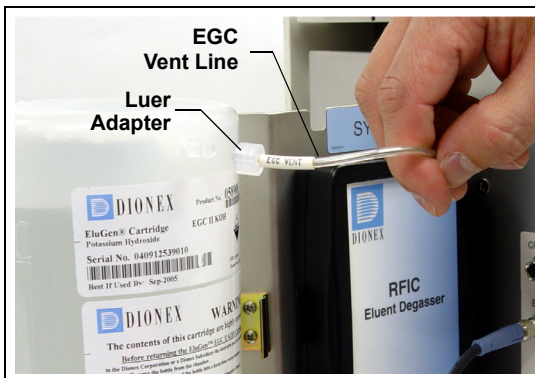

Figure 9-13. Detaching the EluGen Cartridge Vent Line
5. Remove the **VENT** line from the EluGen cartridge by unscrewing the 10-32 luer adapter (see Figure 9-13).
12. Connect the luer adapter and **VENT** line removed from the old cartridge to the vent opening in the new cartridge (see Figure 9-13).